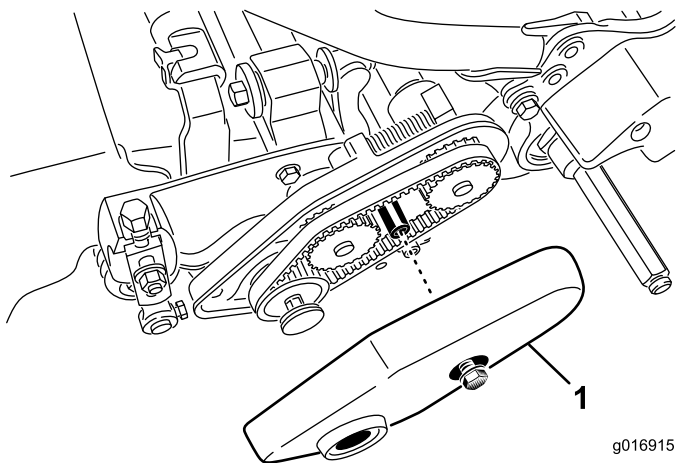

Figure 19
2. Loosen the flange bolt securing the belt cover and remove the belt cover to expose the belt (Figure 19).